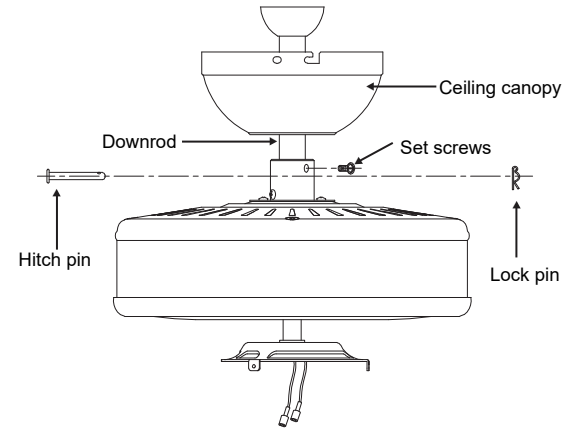

Fig. 6
Step 4. Route wires exiting from the top of the fan motor through the canopy and then through the ball/downrod (**Fig. 6**)
Step 5. Align the holes at the bottom of the downrod with the holes in the collar on top of the motor housing (**Fig. 6**). Carefully insert the hitch pin through the holes in the collar and downrod. Be careful not to jam the pin against the wiring inside the downrod. Insert the locking pin through the hole near the end of the hitch pin until it snaps into its locked position, as noted in the circle inset of **Fig. 6**.
Step 6. Tighten two set screws on top of the fan motor firmly (**Fig. 6**).